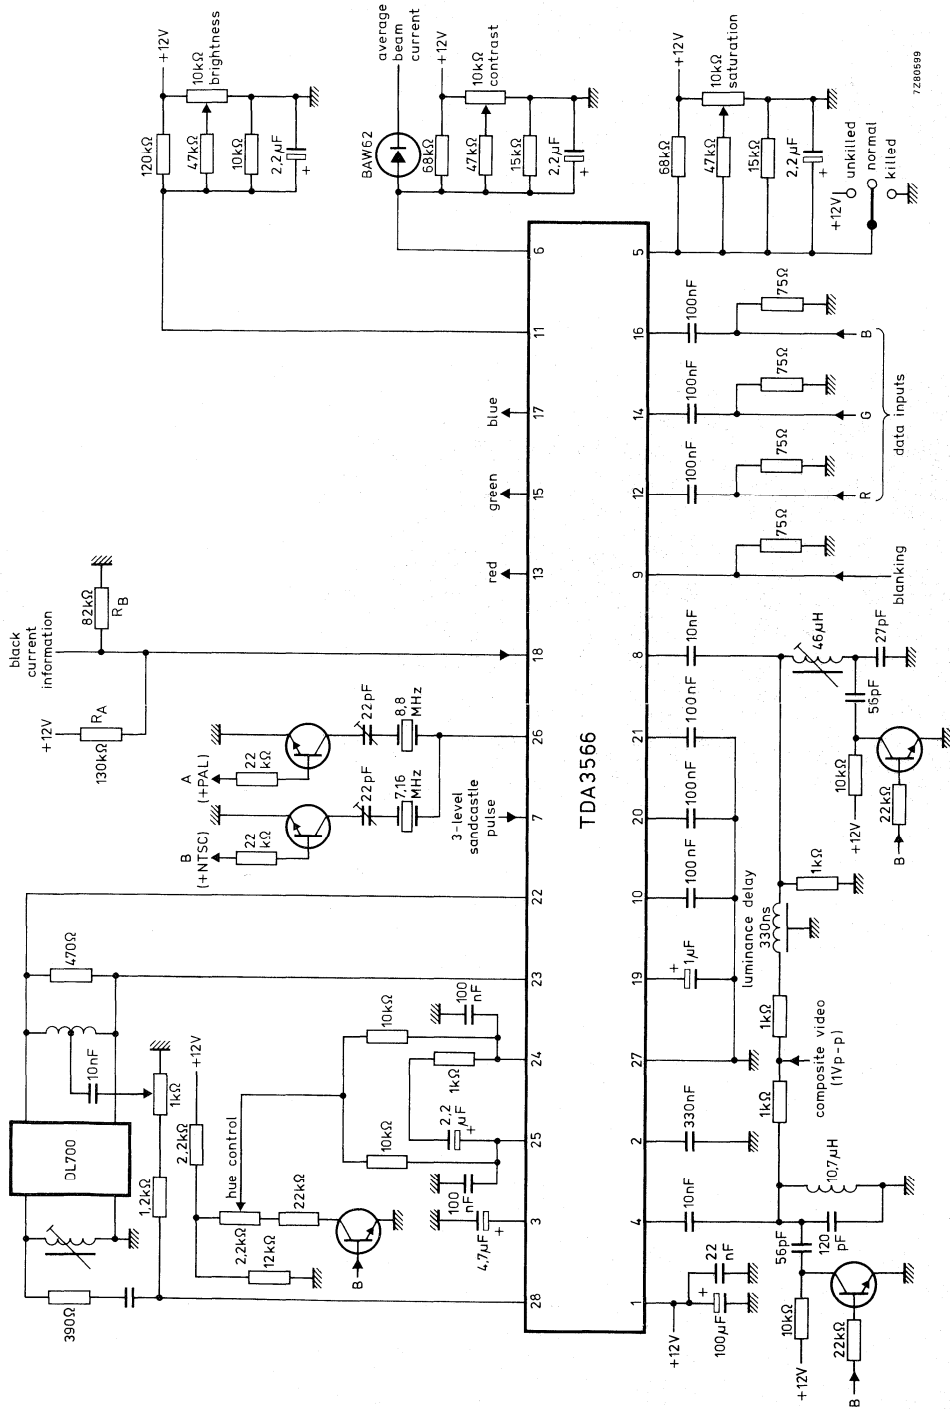

Fig. 8 Application diagram showing the TDA3566 for a PAL/NTSC decoder.
12. The voltage at pins 24 and 25 can be changed by connecting the load resistors ( $10 \text{ k}\Omega$  in this application) to the slider bar of the hue control potentiometer (see Fig. 8). When the transistor is switched on, the voltage at pins 24 and 25 is reduced below 9 V, and the circuit is switched to NTSC mode. The width of the burst gate is assumed to be  $4 \mu\text{s}$  typical.